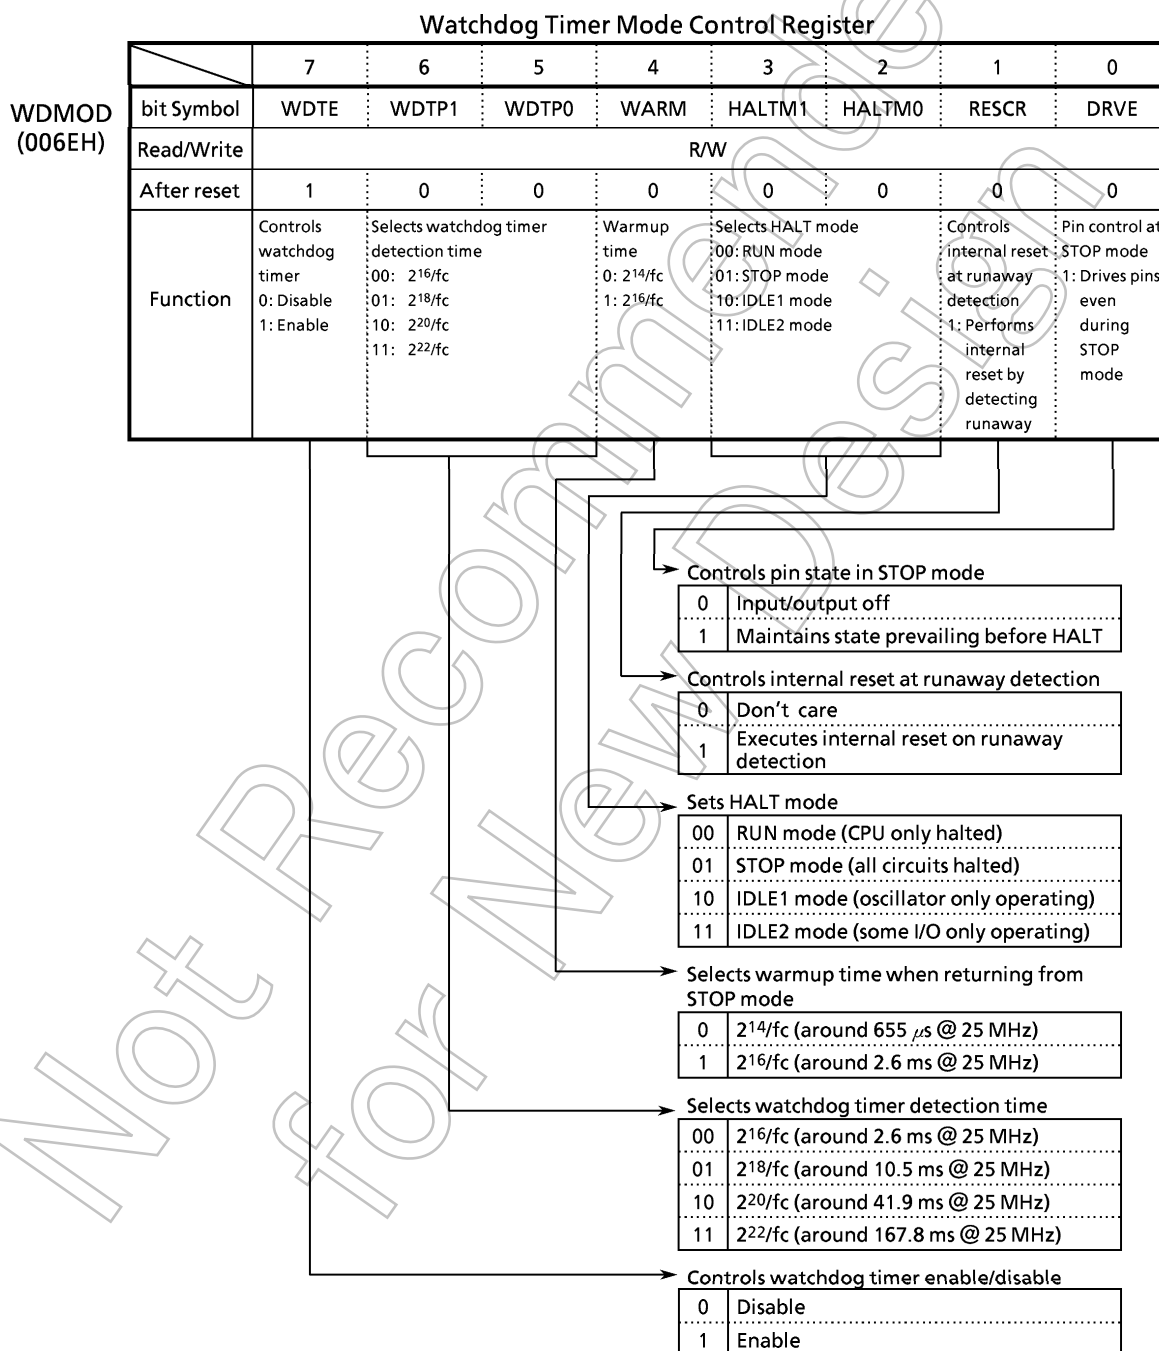

Figure 3.4 (1) Watchdog Timer Mode Control Register
(1) HALT modes
When TMP95CS64/265 executes the HALT instruction, WDMOD<HALTM1:0> of the watchdog timer mode register can be used to set one of the following HALT modes: RUN, IDLE2, IDLE1, STOP. Figure 3.4 (1) shows the watchdog timer mode control register.